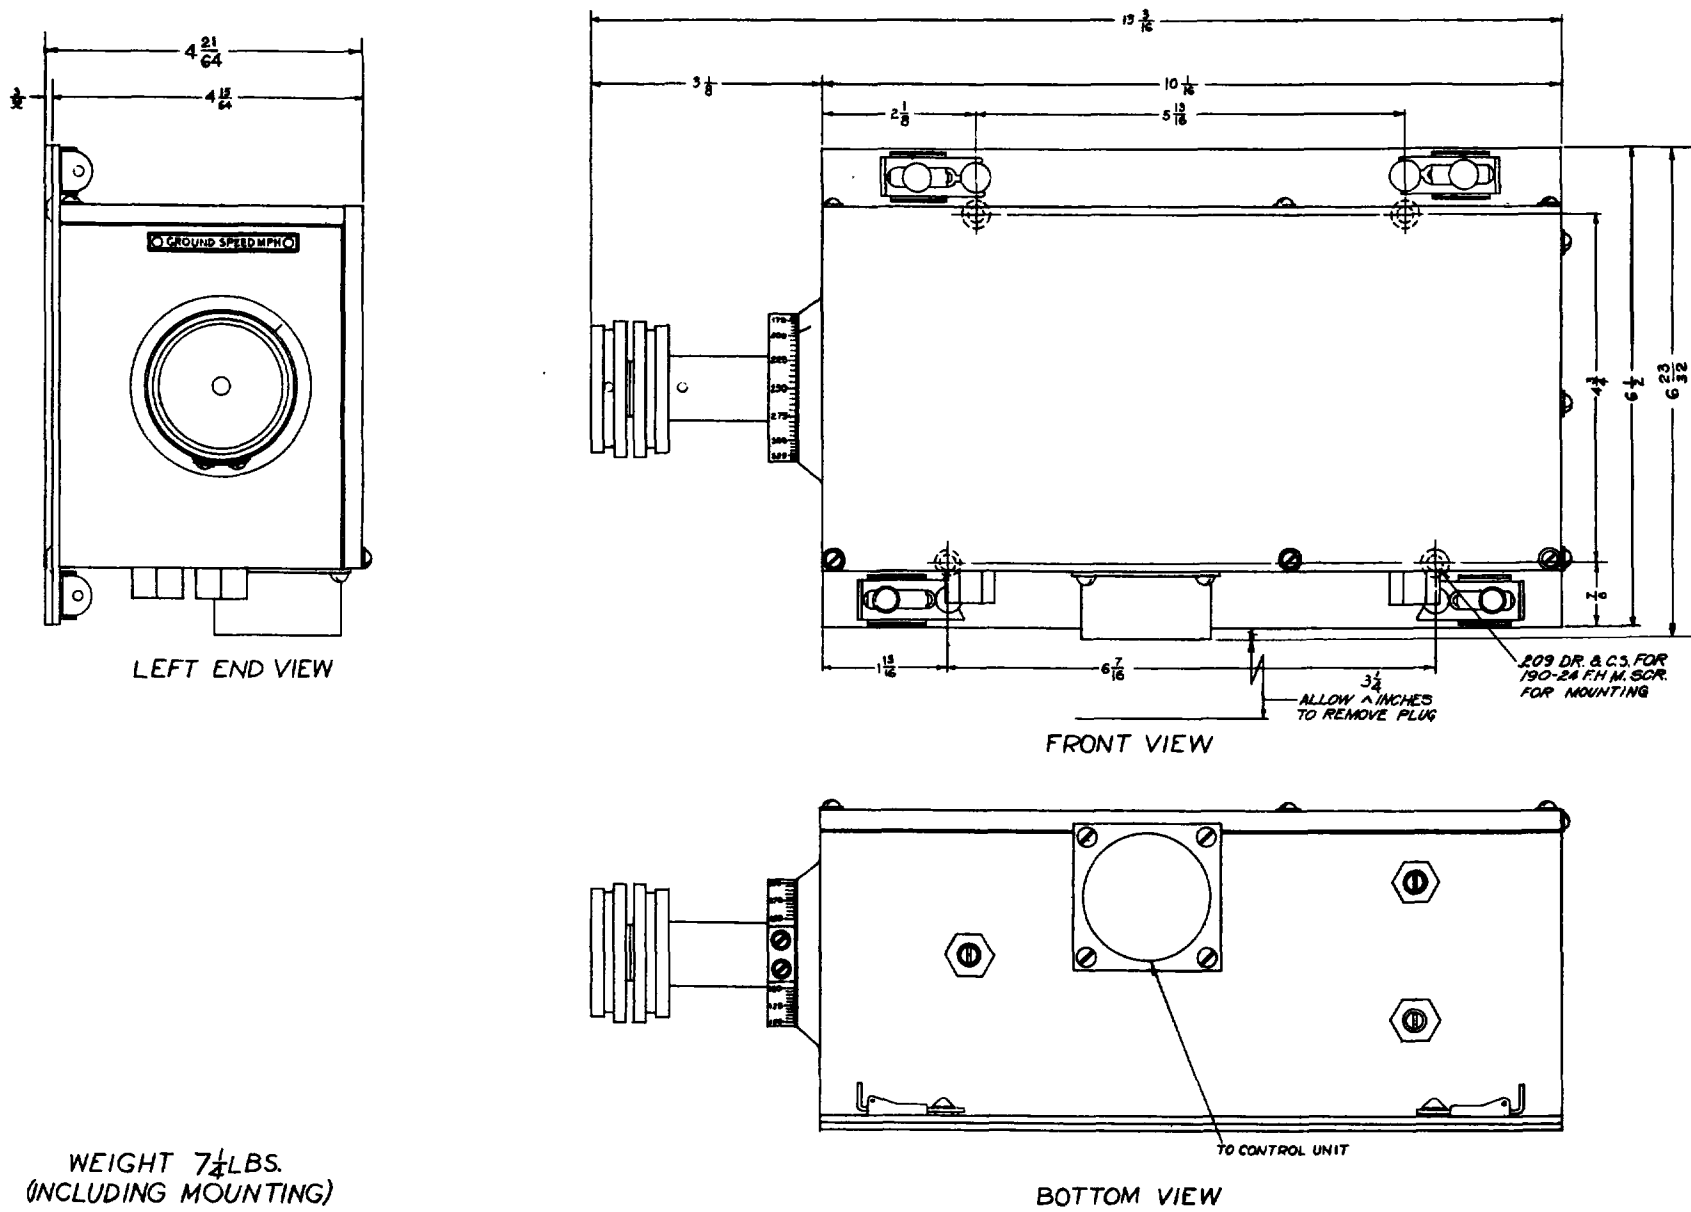

Figure 2-4. Tracking Unit C-7/APQ-5—Outline Dimensions
(4) *TRACKING UNIT C-7/APQ-5 AND MOUNTING MT-17/APQ-5.*—Locate this unit aft of the stabilizer above the operator's knees, or to the left of the stabilizer so that the operating knobs may be conveniently grasped by the operator and the dials and associated index marks may be easily seen. The unit is provided with a snapslide base and mounting plate with countersunk holes for No. 10 flathead machine screws for attachment to the airplane. (See fig. 2-4.)